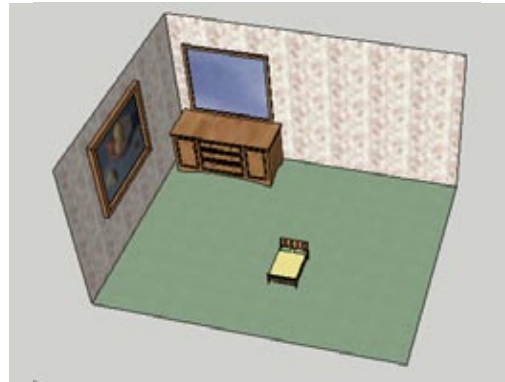

Figure 10-46
5. Use the Zoom Extents tool if your model disappears from view. The painting, room group, and dresser component are now larger, but the bed component has not changed (Figure 10-46).